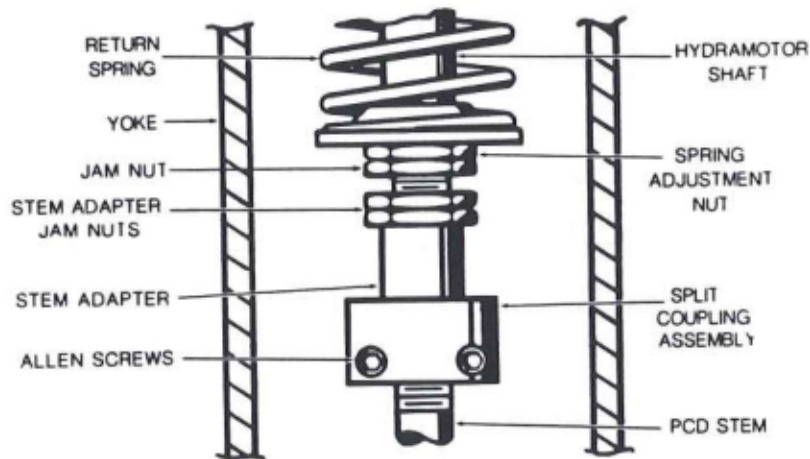

Figure 1-4. Shaft Connection for Pull Type Hydramotors
- 2). Loosen the two Allen cap screws (see Figure 1-4 or 1-5) from the Stem Adapter and remove the split coupling.
- 3).a. Pull Type Hydramotors :Thread two stem adapter jam nuts on the Hydramotor shaft to the upper end of the shaft threads (see Figure 1-4).
- 10). When the Hydramotor shaft touches the top of the PCD stem, mount the two halves of the split coupling (see Figure 1-4 or 1-5) over the PCD stem adapter and join them by tightening the two Allen cap screws.